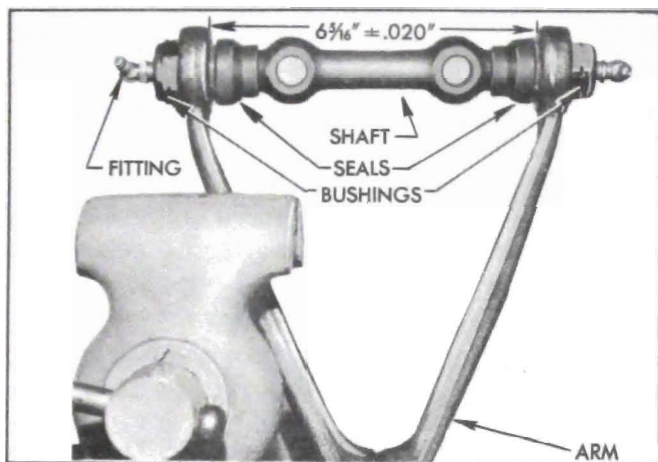

Figure 7-10—Upper Arm, Shaft, Bushings and Seals
4. Before installing any new parts, check the distance between inner ends of the upper arms. The normal dimension is $6\frac{5}{16}'' \pm .020''$. See figure 7-10.